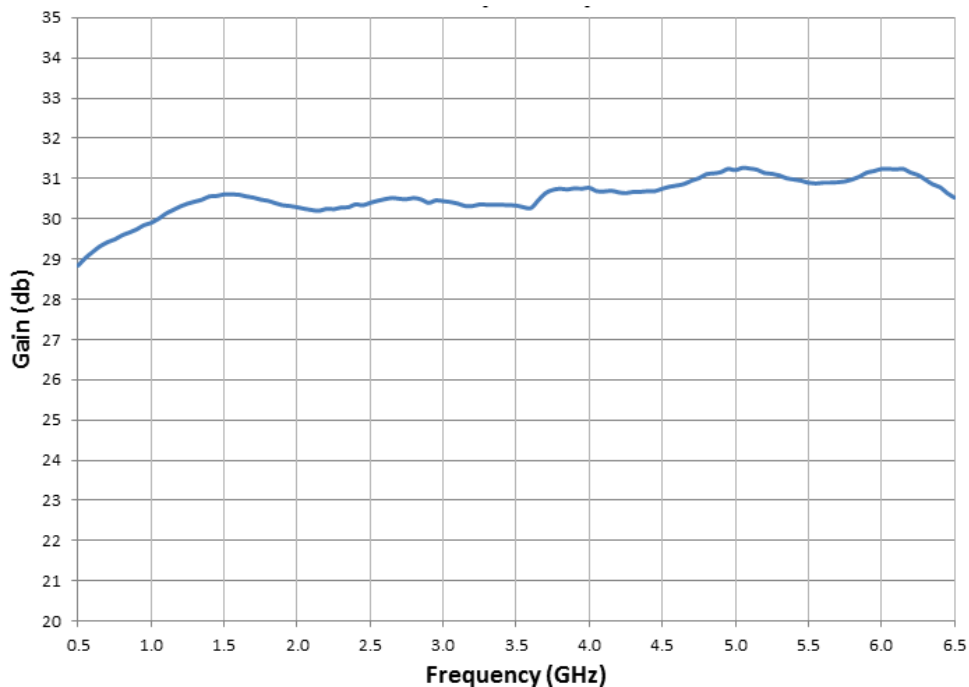

Figure 4-4. Typical A7 Pre-Amp Response
4. If the Quad RF Amplifiers response is normal, check the response of the A7 Pre-Amplifier. The gain response should be approximately 28–32 dB. See Figure 4-4 for typical A7 Pre-Amp response.